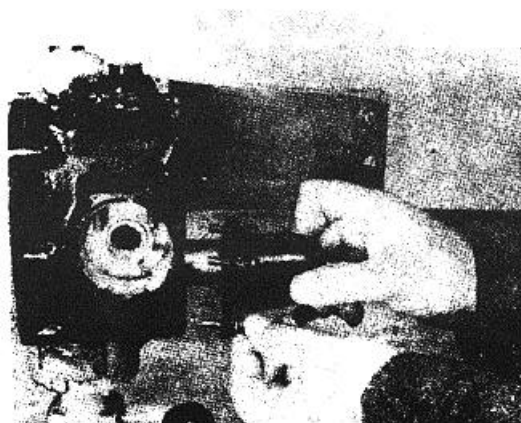

Figure 4-63. Replacing spring pack cover.
d. Replace spring pack cover and gasket. Fig. 4-63.